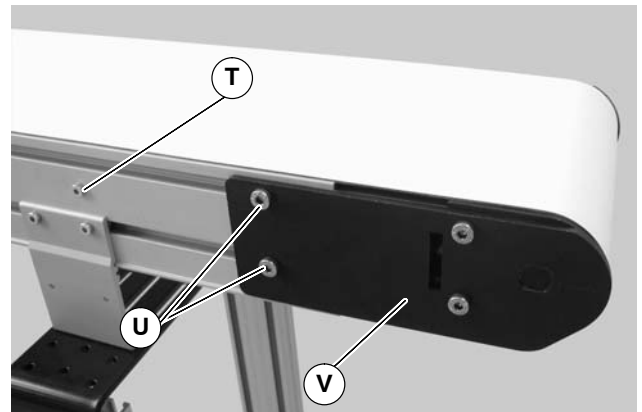
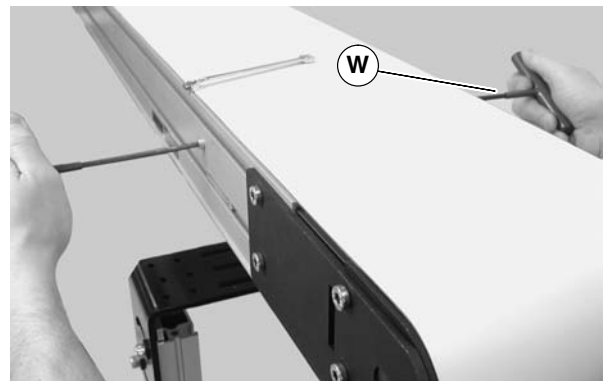

Figure 33
Figure 34
1. On tension end of the conveyor, identified by the pinion locking screw (T of Figure 33), loosen the two tail clamp bolts(U), on both sides of conveyor.
2. With 5mm hex wrench, hold pinion torque screw (W of Figure 34). Loosen the pinion locking screw (T of Figure 33) and turn the pinion torque screw(W) to extend head plate assembly.
4. After adjusting proper tensioning, tighten the pinion locking screw (T of Figure 33) to 69 in-lbs (7.8 N-m), and tighten tail clamp bolts (U of Figure 33) on both sides of conveyor to 146 in-lb (16.5 N-m).
1. Ensure tensioning racks are extended and touching the idler pulley headplates: loosen the pinion locking screw (T of Figure 33) and rotate the pinion torque screw (W of Figure 34) clockwise until contact with the head plate is made, then tighten the pinion locking screw (T) to 69 in-lbs (7.8 N-m)